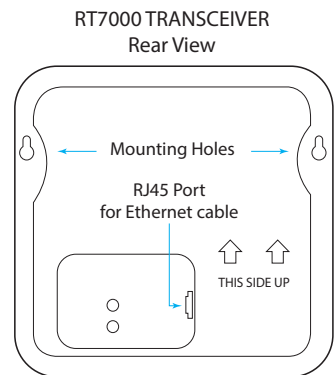
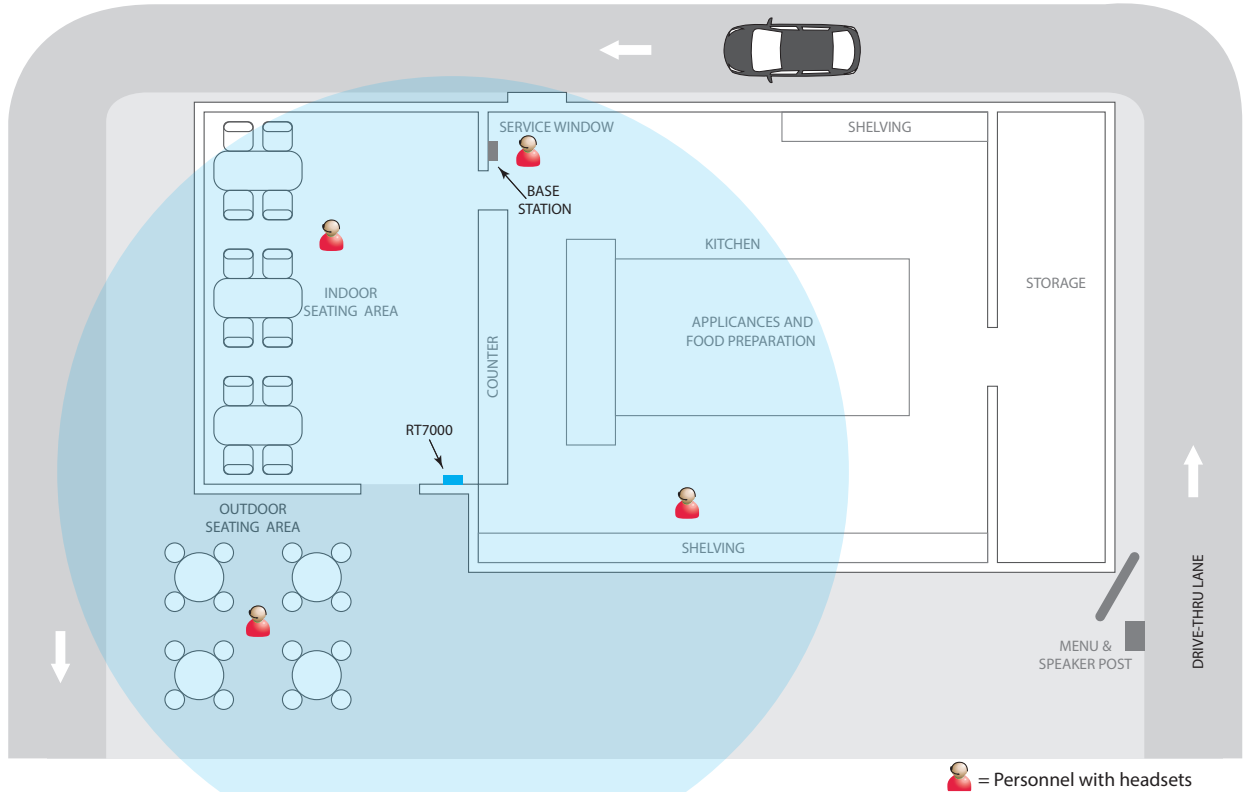

Fig. 2.4
Fig. 2.10
- Finding a good location for the remote transceiver is critical (see Fig. 2.10 and 2.11). Also read about the “Remote Transceiver (RT7000)” on page 14 under Component Notes and review the Critical Steps in the following instructions.
5. **Critical Step:** Loosely mount and connect the RT7000 (Fig. 2.4 & 2.5) in a central location for optimal coverage (until range tested in steps 9 & 10 with the Installation Wizard). For example, notice Fig. 2.10 and 2.11. They show two different store layouts with specific targeted areas where the headsets are primarily used. In these examples, the location selected for the RT7000 (represented by the small blue rectangle) provides the best coverage, as indicated by the blue-circled areas. Each store required the RT7000 to be mounted in a different, yet central, location to provide the best all-around coverage tailored to the store's needs. Store layout and obstructions also affected placement and range. (see "Component Notes" on page 15 for more details on the RT7000 placement).